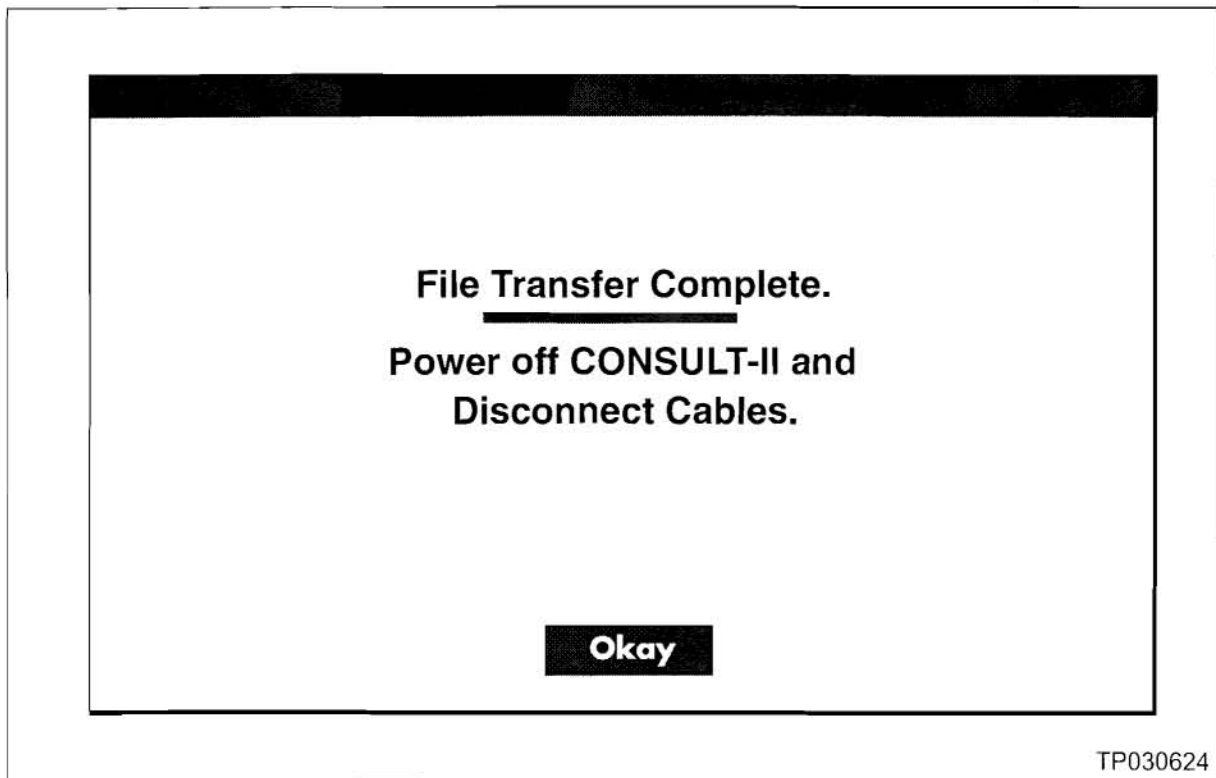

Figure A10
CAUTION: DO NOT DISCONNECT THE ETHERNET CABLE UNTIL COMPLETE IS DISPLAYED AS SHOWN IN FIGURE A10 ON THE NEXT PAGE.
11. When transfer is complete as shown in Figure A10.